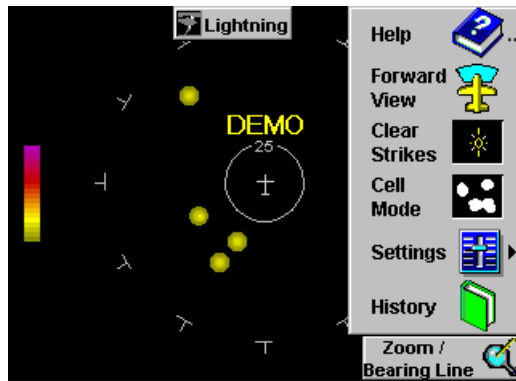

Figure 9: Demo Mode
3. Lightning then displays its data page and main menu (Figure 9).
5. To return to normal operation follow the preceding steps, however, select WEATHER for Operation Mode. While the WX-500's demo mode is enabled, operation of Lightning will display simulated data along with a DEMO annunciation on Lightning's data page (Figure 9).